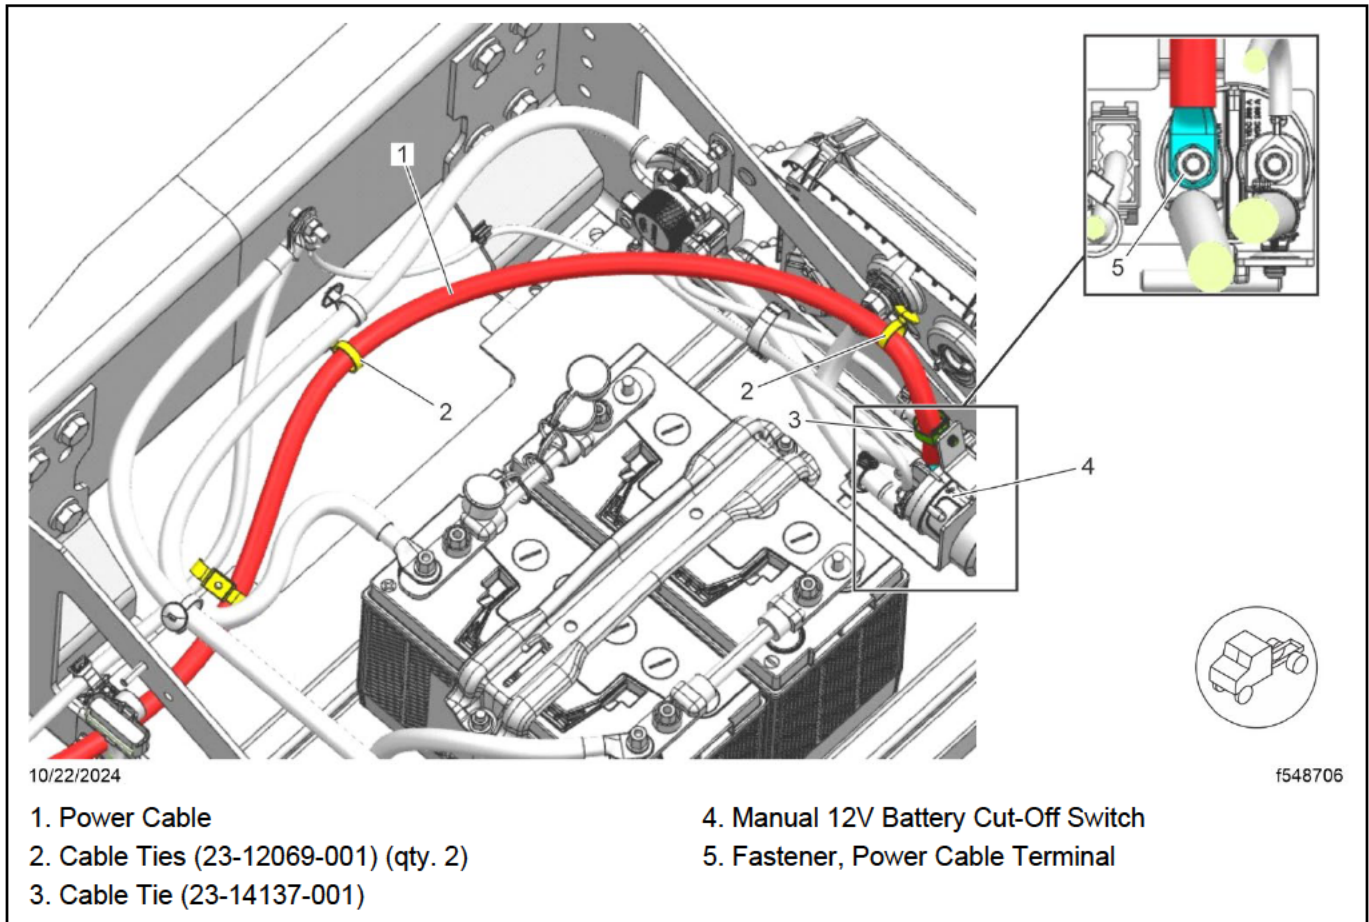

Fig. 8, Connecting the VFD Power Cable to the Battery Cut-Off Switch
17. Connect the power cable from the VFD (A06-47195-109) to the battery cut-off switch, as shown in **Fig. 8**. Tighten the fastener 80 lbf-in (900 N-cm).
18. Use cable tie (23-14137-001), item 3 in **Fig. 8**, to clip the cable.
19. Use cable ties (23-12069-001), item 2 in **Fig. 8**, to secure the power cable.